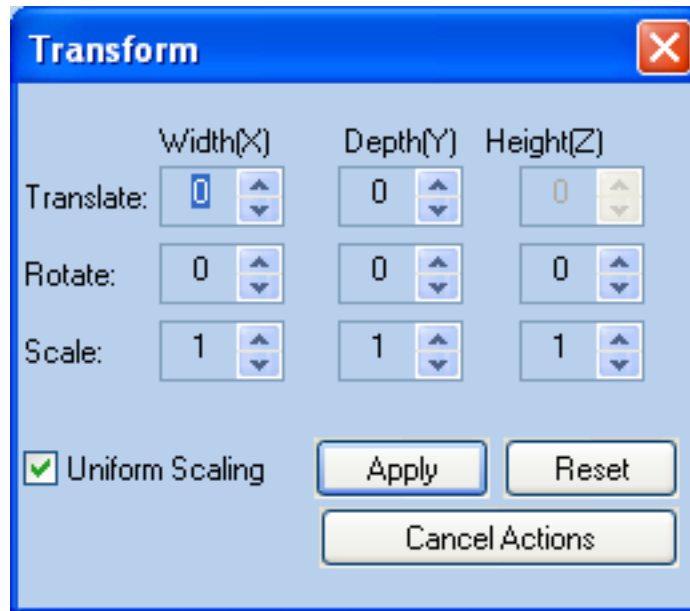

Figure 5-28 *Transform* dialog box
2. Display the *Transform* dialog box (see Figure 5-28 on page 5-30).